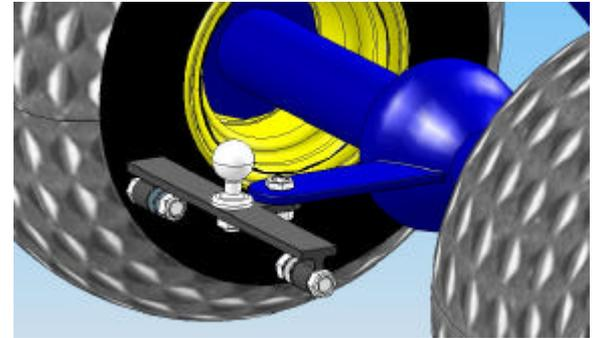

Figure 5: Rear Set in place
- Bolt the Fender Rear to the quad using the  $\frac{3}{4}$  inch bolt supplied (orientate the plate as illustrated in Figure 5).